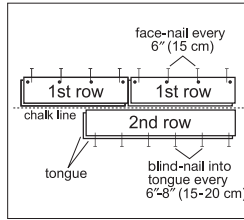

Figure 8
- If using a pneumatic finish nailer to face-nail the groove side 1/2" (13 mm) from the edge at 6" (15 cm) intervals and 1"-3" (2.5-8 cm) from each end, then blind nail using finishing gun held at a 45° angle. Nail down through the nailing "pocket" on top of the tongue every 6"-8" (15-20 cm) (Figure 8).
- If using finish nails, pre-drill the nail holes with a 1/32" (8 mm) bit approximately 1/2" (13 mm) from the back (groove) edge, 1"-3" (2.5-8 cm) from each end, and at 6" (15 cm) intervals. Pre-drill at the same intervals at a 45° angle down through the nailing "pocket" on top of the tongue (Figure 8). Face-nail the groove side where pre-drilled. When complete blind-nail at a 45° angle through the tongue of the first row. Fasten using 6 or 8d finish nails. Countersink nails to ensure flush engagement of groove. Avoid bruising the hardwood by using a nail set to countersink the nails.